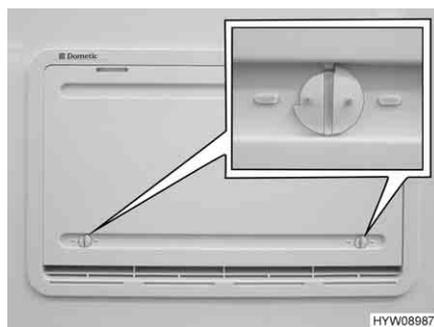

Fig. 177 Winter cover
If the refrigerator is to be operated at low external temperatures, the manufacturer recommends the use of a winter cover (Fig. 177) for the refrigerator ventilation grills.
- Open both locks (Fig. 177) (groove in horizontal position).